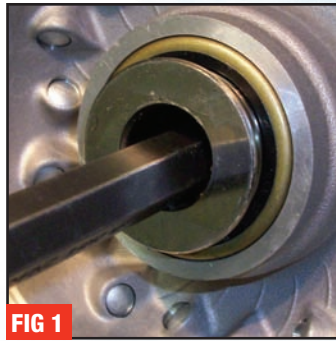

FIG 1
**1** Insert a long punch (with a good square edge) into the center of the aluminum wheel bearing spacers and push up against the inner edge of the spacer on the opposite side of the wheel (**Fig. 1**).